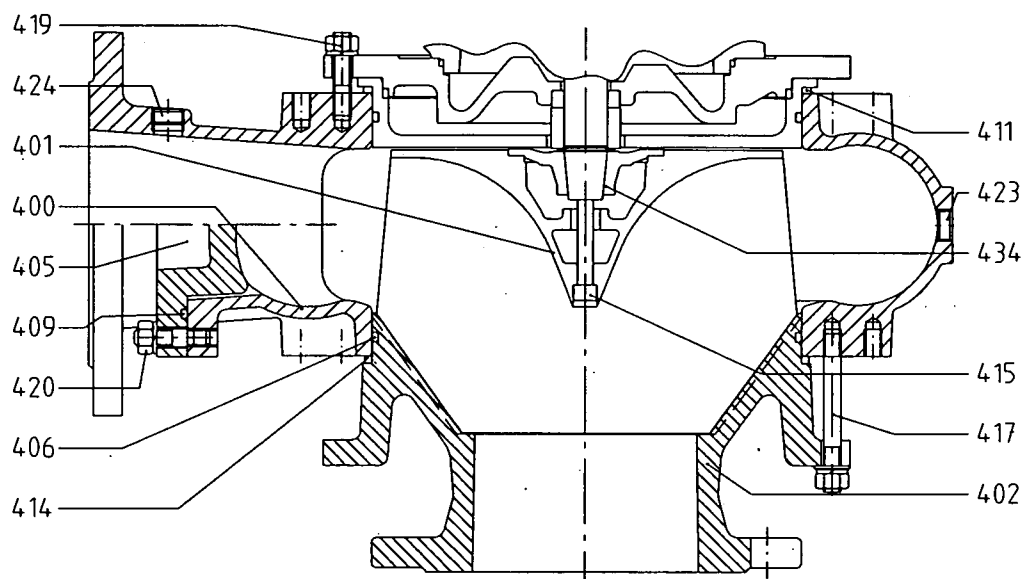

Fig. 6: E05K - L20K
Certain models may have a spacer ring (414) between mating surfaces of the suction cover and the volute casing. When there is excessive wear on the conical surface, the suction cover (402) should be replaced (Fig. 6).
b) For all other pumps without "regulable" feature (Fig. 6)